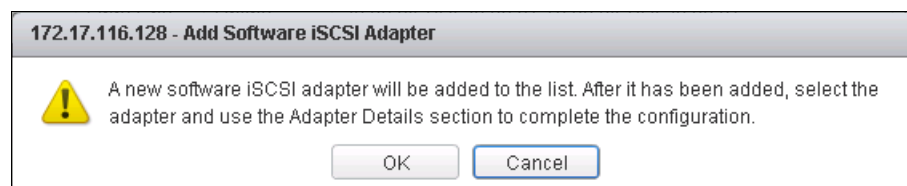

Figure 5-28 VMware: Add Software iSCSI Adapter window
- The Add Software iSCSI Adapter window opens. See Figure 5-28.